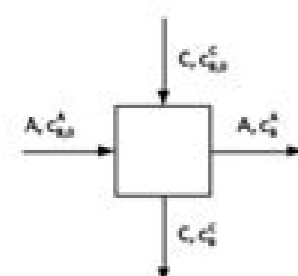

Figure 1: 1-stage cross-current absorber.
- (i) The solvent is totally fed in a cross-current process with only 1 stage, see Figure 1.